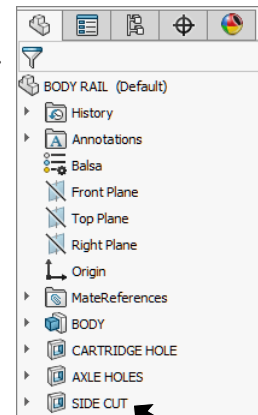

Fig. 13
Step 1. **Rename Cut-Extrude1 to SIDE CUT** in the Feature Manager, **Fig. 13.**